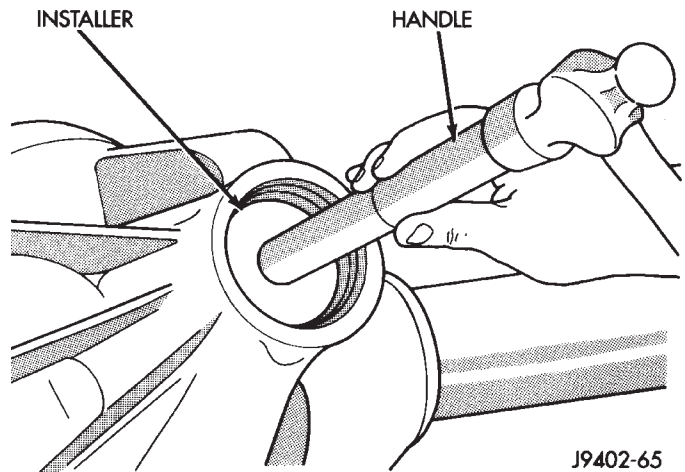

Fig. 52 Pinion Front Bearing Cup Installation
(2) Apply Mopar® Door Ease stick lubricant to outside surface of bearing cup. Install the pinion front bearing cup with Installer D-129 and Handle C-4171 (Fig. 52).